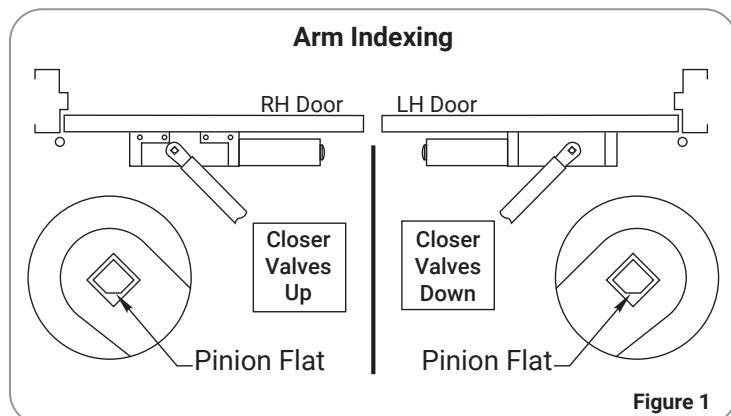

Figure 1
- four (4) on door for closer or drop plate
- three (3) on frame face for track assembly
6. Place slide arm on pinion shaft using Arm Indexing instructions. (Figure 1)